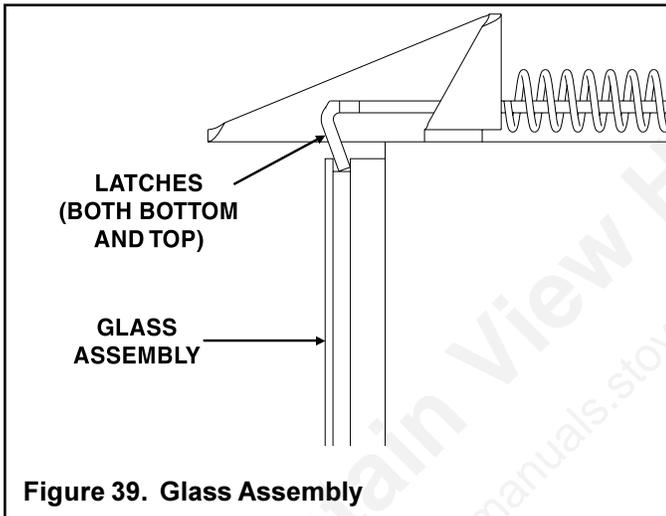

Figure 39. Glass Assembly
- Pull the four glass latches out of the groove on the glass frame. Remove glass door from the unit (see Figure 39).